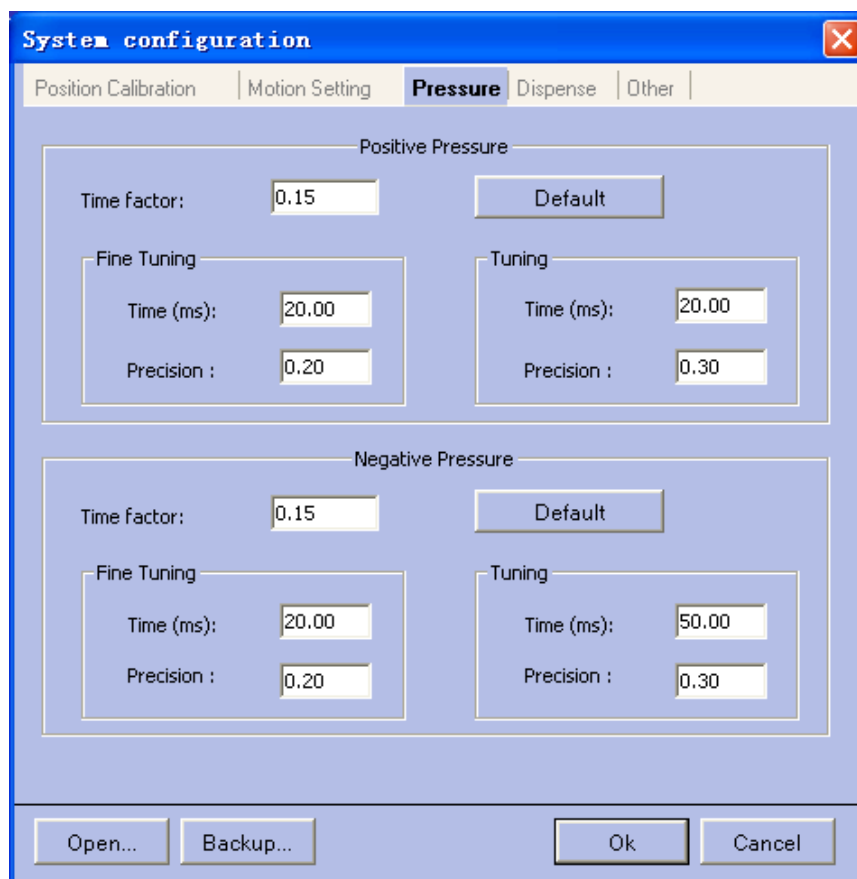

Figure 6-7 Dialogue box for setting Pressure parameters
- Access the Pressure Parameters page on the Configuration Panel, as shown in Figure 6-7